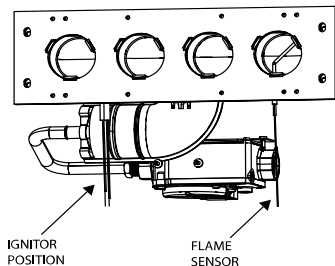

Fig. 67 – Igniter Position - Back View
- a. Using a 1/4-in. driver, remove the screw securing the flame sensor to the burner assembly (see Fig. 67). Retain factory-provided 1/4-in. screws.
7. To replace flame sensor and bracket assembly, reverse items 6a through 6d.
8. Reconnect flame sensor wire to the wire harness, dressing the sensor wires to ensure there is no tension on the flame sensor itself (see Fig. 67).
The igniter does **NOT** require annual inspection. Check igniter resistance before removal (see Fig. 67).
- a. Using a 1/4-in. driver, remove the two screws securing the igniter mounting bracket to the burner assembly (see Fig. 67). Retain 1/4-in. length screws.
6. To replace igniter and bracket assembly, reverse items 5a through 5d.
7. Reconnect igniter harness to the igniter, dressing the igniter wires to ensure there is no tension on the igniter itself (see Fig. 67).